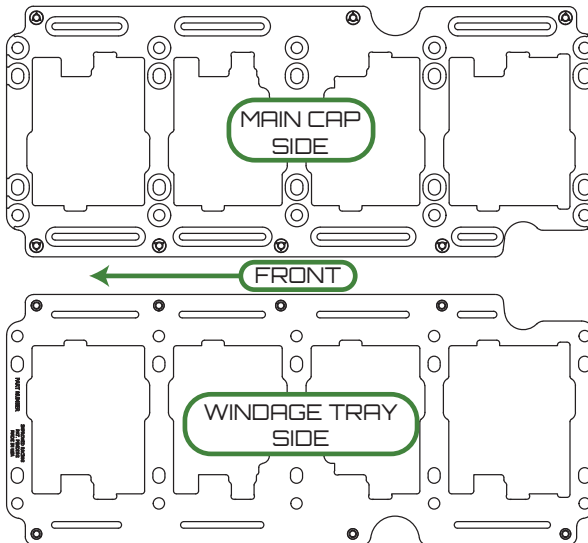

Figure 4 - Correct Crank Scraper Orientation
5. Install the provided M6 screws (HSC-1037) into the scraper's threaded inserts **on the windage tray side** (see crank scraper orientation in Figure 4) using a 4 mm hex-drive bit/key. Torque to a maximum of 5 lb-ft (6 N·m).
7. Refer to Figure 4 to ensure the scraper is oriented correctly, then loosely secure the scraper to the main caps using the **four outermost main studs only**.